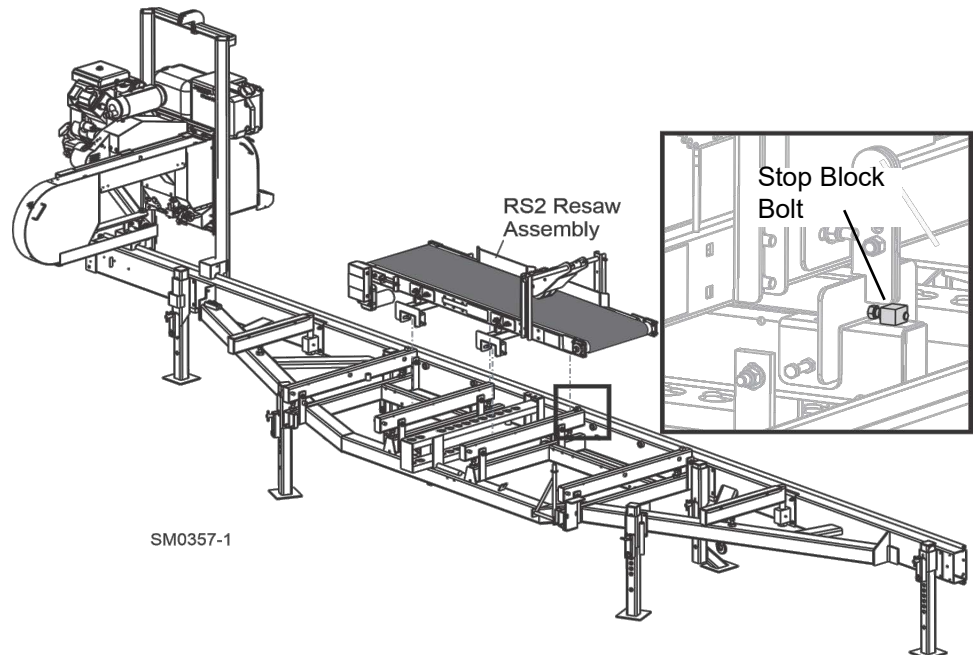

FIG. 1-19
1. Move the saw head to the front of the bed. **See Fig. 1-19.**